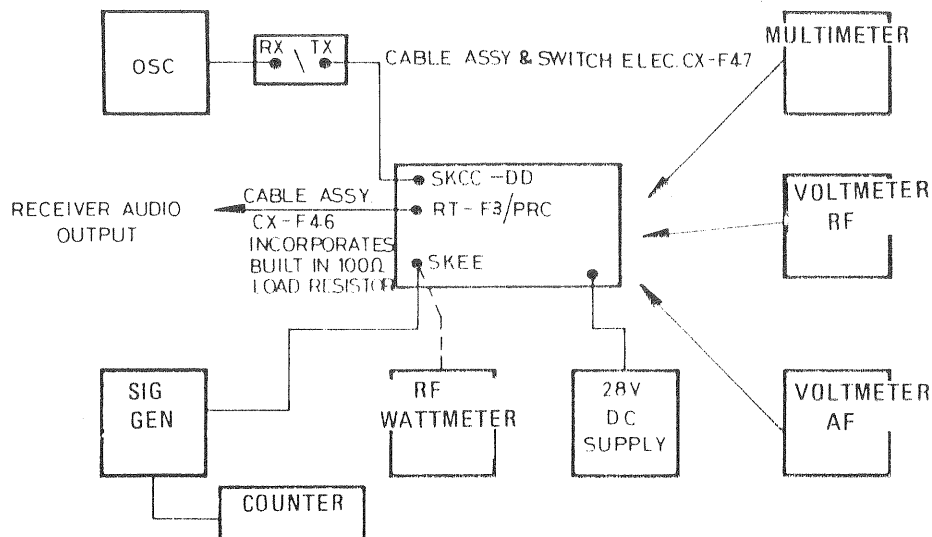

FIG 16 — TEST POINT MEASUREMENT — TEST SET--UP
- Set up the R/T unit and test equipment as shown in Fig 16.
- Connect 50  $\Omega$  10 watt RF load to SKEE as indicated in Fig 16.